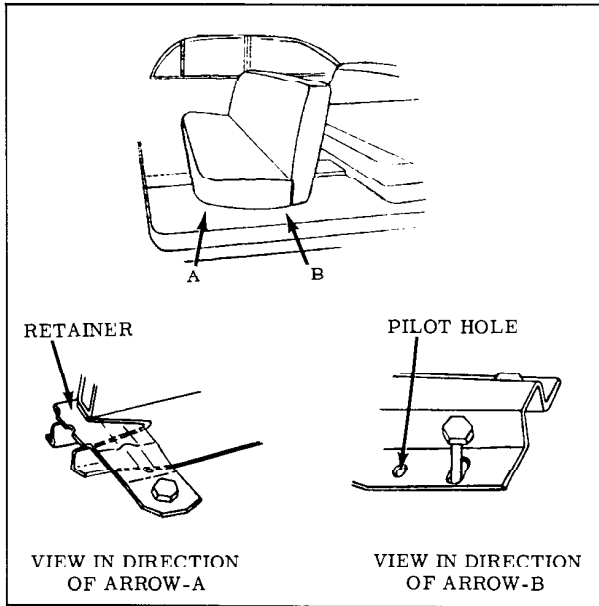

Fig. 15-64 Front Seat Repositioning
4. Enlarge pilot holes in seat adjuster located 1 inch forward of attaching holes at rear of each seat adjuster to 3/8" diameter. (Fig. 15-64)